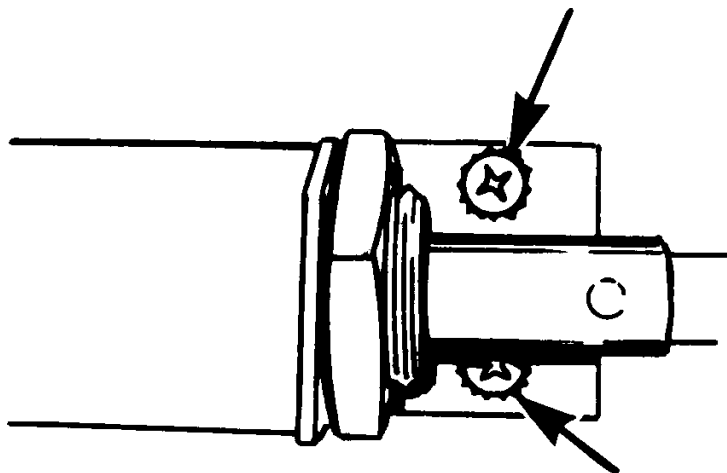

Figure 4-13 Disconnecting Solenoid
- 6.1 Disconnect Solenoid cable from J7 on Logic Board. (Fig. 4-13)